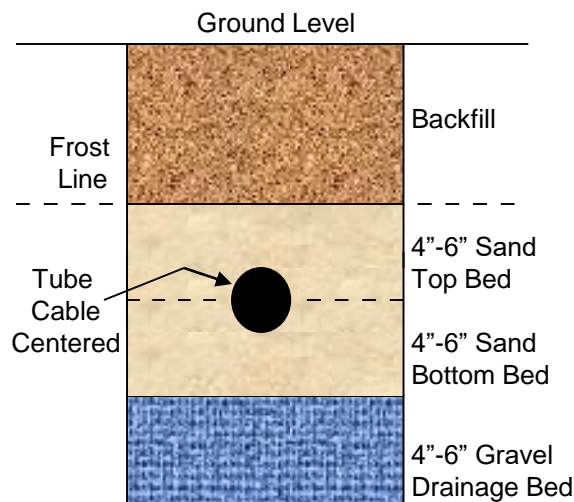

Figure 26
19.4 If an open trench method is used, the recommended technique is shown in **Fig. 26**: